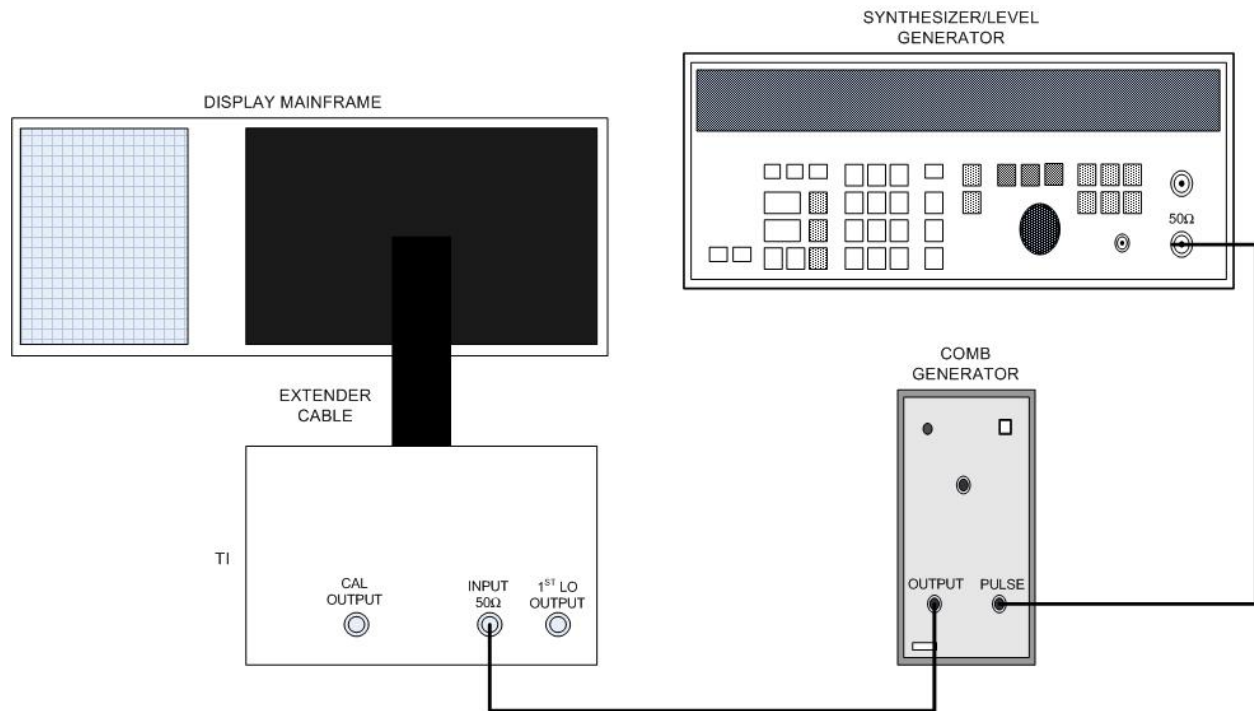
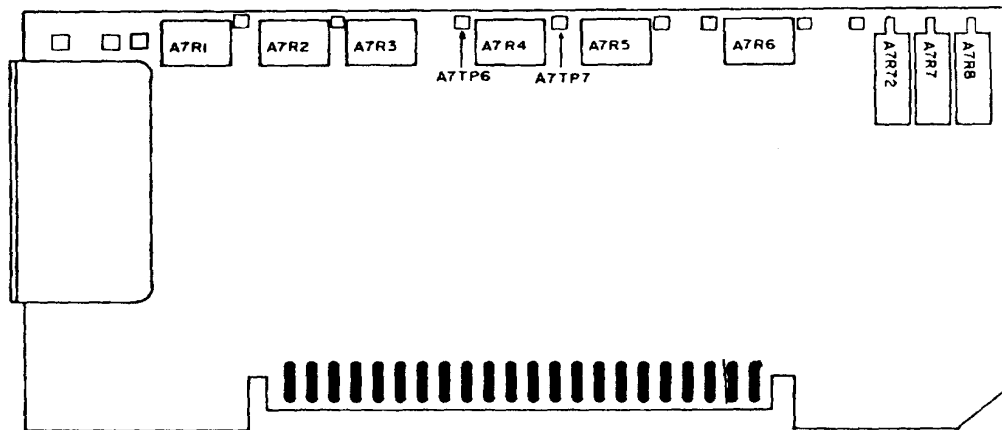

Figure 7. Span width and frequency accuracy - equipment setup.
Figure 9. A7 frequency control - adjustment locations.
- (1) Connect equipment as shown in figure 7.
- (2) Position controls as listed in (a) through (g) below.
- (1) Connect multimeter to A7TP7 (fig. 9) and chassis ground. Adjust A7R5 (fig. 9) for a multimeter indication between 14.48 and 14.52 V dc (R).
- (2) Disconnect multimeter from A7TP7 (fig. 9) and connect to A7TP6 (fig. 9) and adjust A7R4 (fig. 9) for a multimeter indication between 5.99 and 6.01 V dc (R).
- (3) Set **FREQ SPAN/DIV** switch to **5 MHz** and **RESOLUTION BW** switch to **100 kHz**.
- (4) Turn **FREQUENCY ZERO** control fully ccw.
- (5) Adjust **TUNING** control for **FREQUENCY MHz** readout of approximately -16.0.
- (6) Press **FREQUENCY CAL** pushbutton and adjust A7R3 (fig. 9) to center **LO** feedthrough (within ± 1 division) on crt (R).
- (7) Position controls as listed in (a) through (d) below:
- (8) Connect comb generator to **TI INPUT 50Ω**.
- (9) Adjust **TUNING** control, A7R1 and A7R2 (fig. 9) to position a comb signal on 1st vertical graticule line and a second comb signal on 6th (center) vertical graticule line (R).
- (10) Repeat (5) and (6) above.
- (11) Connect equipment as shown in figure 7.
- (12) Adjust synthesizer/level generator frequency to 1 MHz and RF output amplitude to +10 dBm.
- (13) Set **FREQ SPAN/DIV** switch to **1 MHz**.
- (14) Adjust **TUNING** control to approximately 11 MHz for view of one comb signal per division and press **FREQUENCY CAL** pushbutton.
- (15) Adjust A7R6 (fig. 9) to align comb signals (one per division) on vertical graticule lines (R).
- (16) Disconnect equipment shown in figure 7 and connect signal generator RF output to **TI INPUT 50Ω**.
- (17) Adjust signal generator frequency to 1500 MHz and RF output level to -10 dBm.
- (19) Center **LO** feedthrough signal on crt with **TUNING** control.
- (20) Press **FREQUENCY CAL** pushbutton.
- (21) Repeat (19) above.
- (22) Adjust **FREQUENCY ZERO** control for 00.0 indication on **FREQUENCY MHz** readout.
- (23) Adjust **INPUT ATTEN (OPTIMUM INPUT)** switch for workable signal level on crt.
- (24) Adjust **TUNING** control to center 1500 MHz signal on crt.
- (25) Press **FREQUENCY CAL** pushbutton and recenter 1500 MHz signal with **TUNING** control. Adjust A1A2R3 (located on A1A2 board) for **FREQUENCY MHz** readout indication between 1499 and 1501 MHz (R).
- (26) Adjust signal generator frequency to 190 MHz.
- (27) Adjust **TUNING** control to center 190 MHz signal on crt.
- (28) Press **FREQUENCY CAL** pushbutton.
- (29) Repeat (27) above and adjust A7R7 (fig. 9) for **FREQUENCY MHz** readout indication of 190.0 (R).